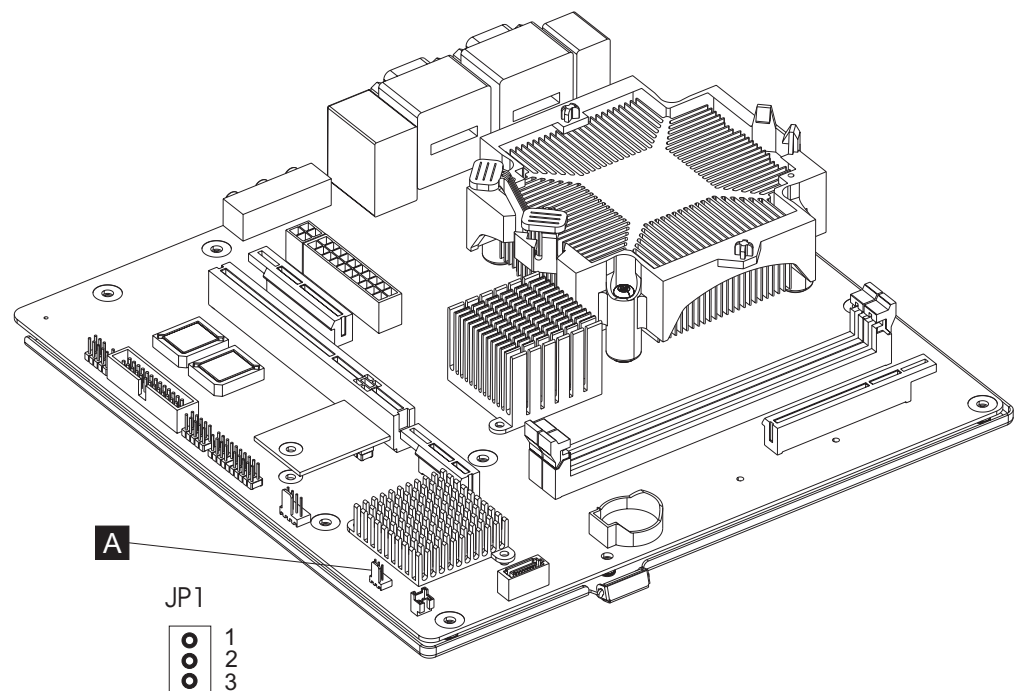
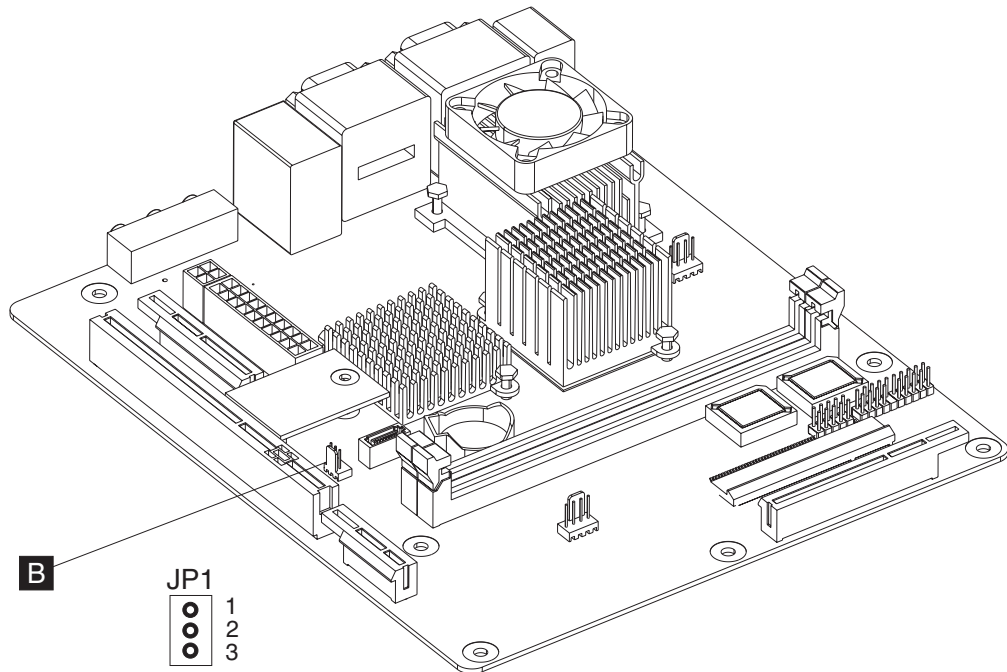
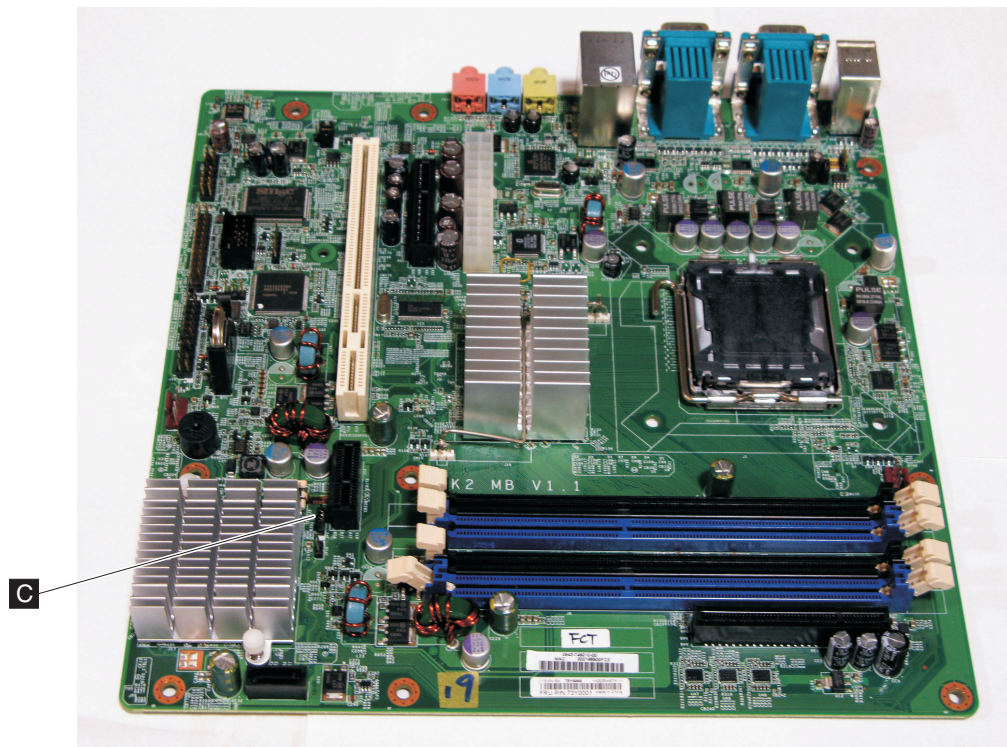

Figure 51. Location of CMOS jumper - Models 743, C43, E43, 783, and E83
Figure 52. Location of CMOS jumper - Models 723 and E23
Figure 53. Location of CMOS jumper - Models 784, C84, and E84
4. See **A** in Figure 51 or **B** in Figure 52 on page 74 or **C** in Figure 53 on page 74 to locate your CMOS jumper on the system board. See Table 12 on page 75 for the correct pins and position to clear your CMOS settings.